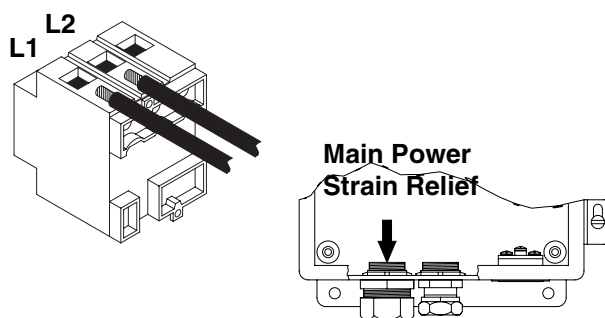

FIG. 2: Main Power Connection
- a. Feed power cord through strain relief in bottom of console. Connect power leads to terminals L1 and L2 of main disconnect. See FIG. 2.